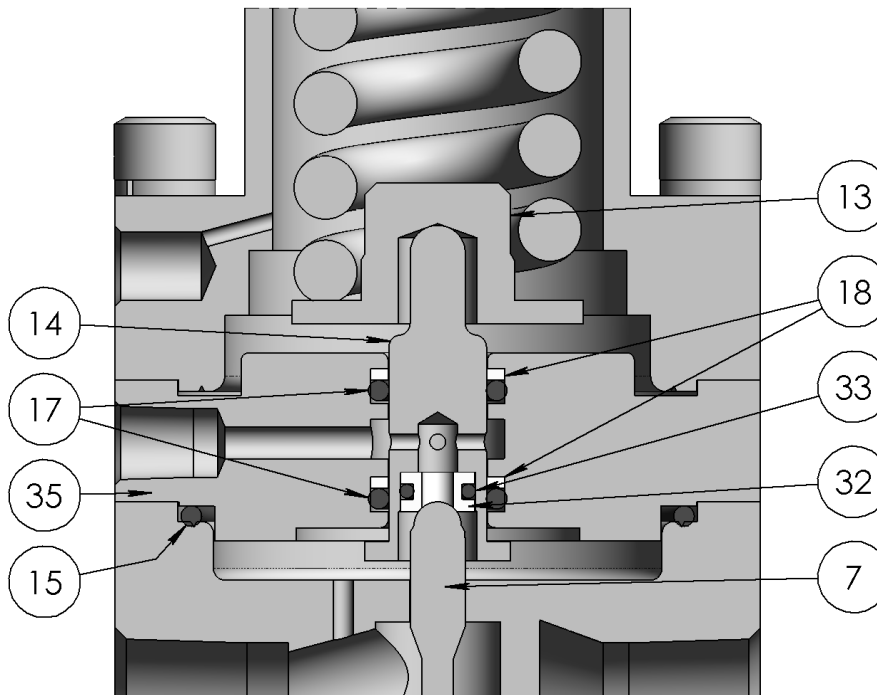

Fig 7
2. Fit the self-vent seat O-ring (33) over the self-vent seat (32) then insert the seat into the self-vent piston (14). Ensure the chamfered edge of the seat is facing out.
3. Insert the piston O-rings (17) and piston backup rings (18) into the self-vent plate (35). Ensure they are oriented correctly per Fig 7.
4. Lightly lubricate the piston O-rings (17) then insert the piston (14) into the plate (35).
5. Place the piston plate O-ring (15) into the body (10) then fit the piston plate assembly, aligning the vent port as desired.
6. Place the bottom spring guide (13) onto the piston (14).